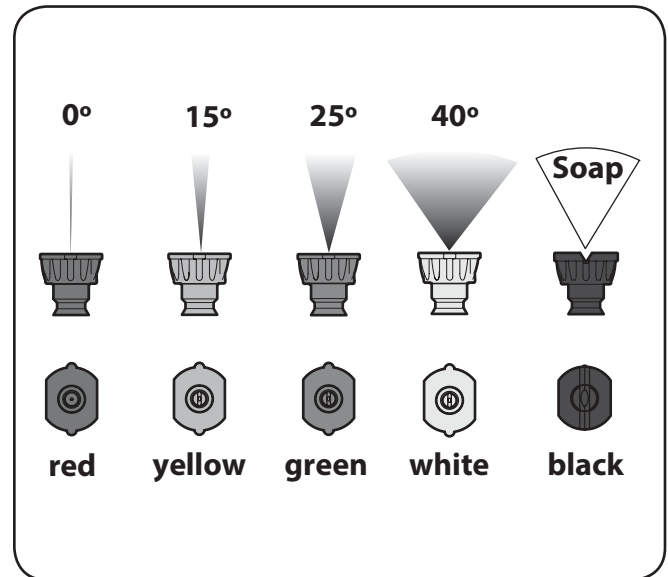

Figure 3-6
- Select the tip to use for the particular application this pressure washer is to be used for. See Figure 3-6.